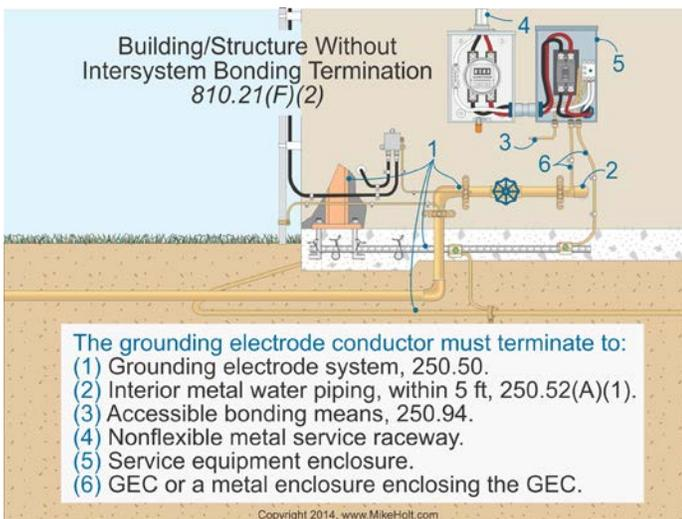

Figure 810-16
**(2) In Buildings Without Intersystem Bonding Termination.** The bonding conductor or grounding electrode conductor for the antenna mast and antenna discharge unit must terminate to the nearest accessible location on the following: Figure 810-16